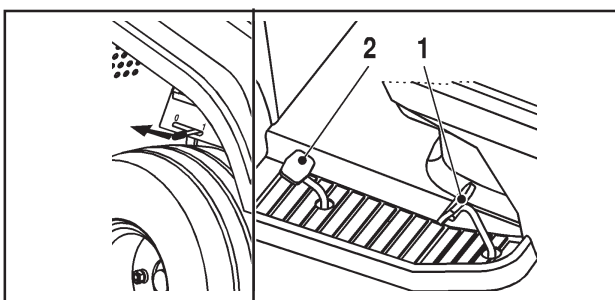

Fig. 15
The tractor is equipped with a hydrostatic transmission. It means that the forward and reverse speed can be achieved with the use of the pedals (Fig. 15). The more depressed the pedals are, the faster the tractor moves. The tractor moves forward and reverse at the same speed.
REVERSE GEAR (FIG. 15)
Depress slowly the reverse movement pedal (Fig. 15, pos. 2).